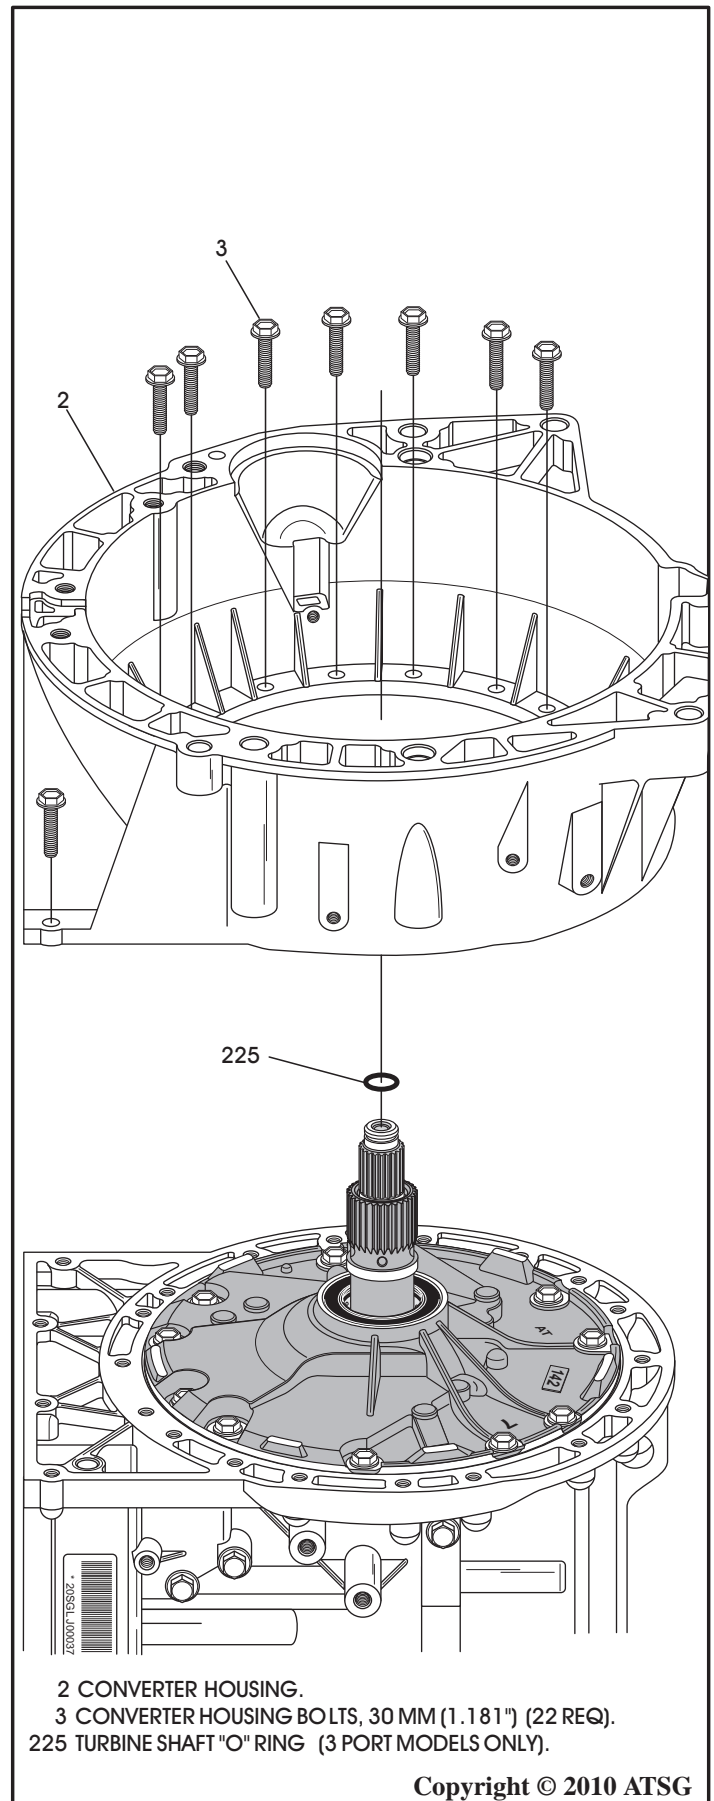

Figure 40
6. Remove torque converter housing, as shown in Figure 40, by tapping with a mallet as necessary.
7. Remove and discard the turbine shaft "O" ring, as shown in Figure 40.